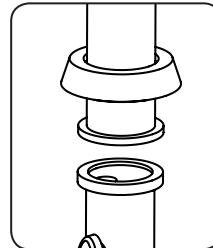

FIGURE 2
3. Place and align shower upper tube on lower tube. **NOTE:** Knob and shower head need to face the same direction. Press the upper tube down into lower tube. FIGURE 2
4. Turn locking ring clockwise to securely connect upper tube to lower tube. FIGURE 2